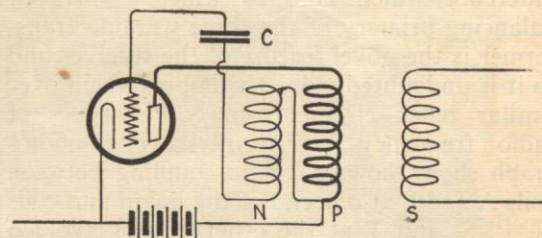

FIG. 1
**I**F A transformer has a tuned secondary, the lower the resistance of the secondary is, the greater the voltage amplification will be, and the looser the best value of coupling. The easiest way to obtain a very low effective resistance is to employ regeneration in the tube to which the secondary is connected. The use of regeneration in this way will help most when the secondary is loosely coupled to its primary, and the set is then much more selective. By making this tube oscillate, signals are easily picked up by the squeals—the reason that the set is non-radiating is that if the capacity C of Fig. 1 is adjusted just right and there is no magnetic feed-back to the antenna, then no oscillations can get back from the oscillating tube through the amplifying tube to the antenna. The neighbors, bless 'em, won't hear any squeals.